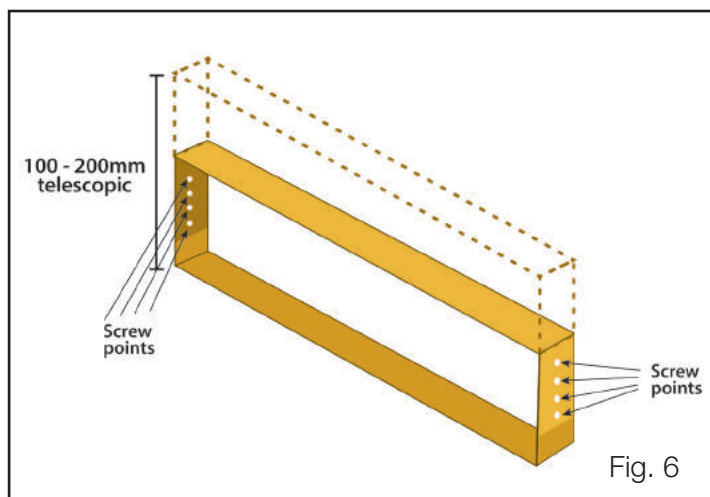

Fig. 6
4. Lift the cassette to the desired height and fix in place with the use of the 10mm supplied screws that are inserted on the sides of the mounting brackets. (Fig. 6)